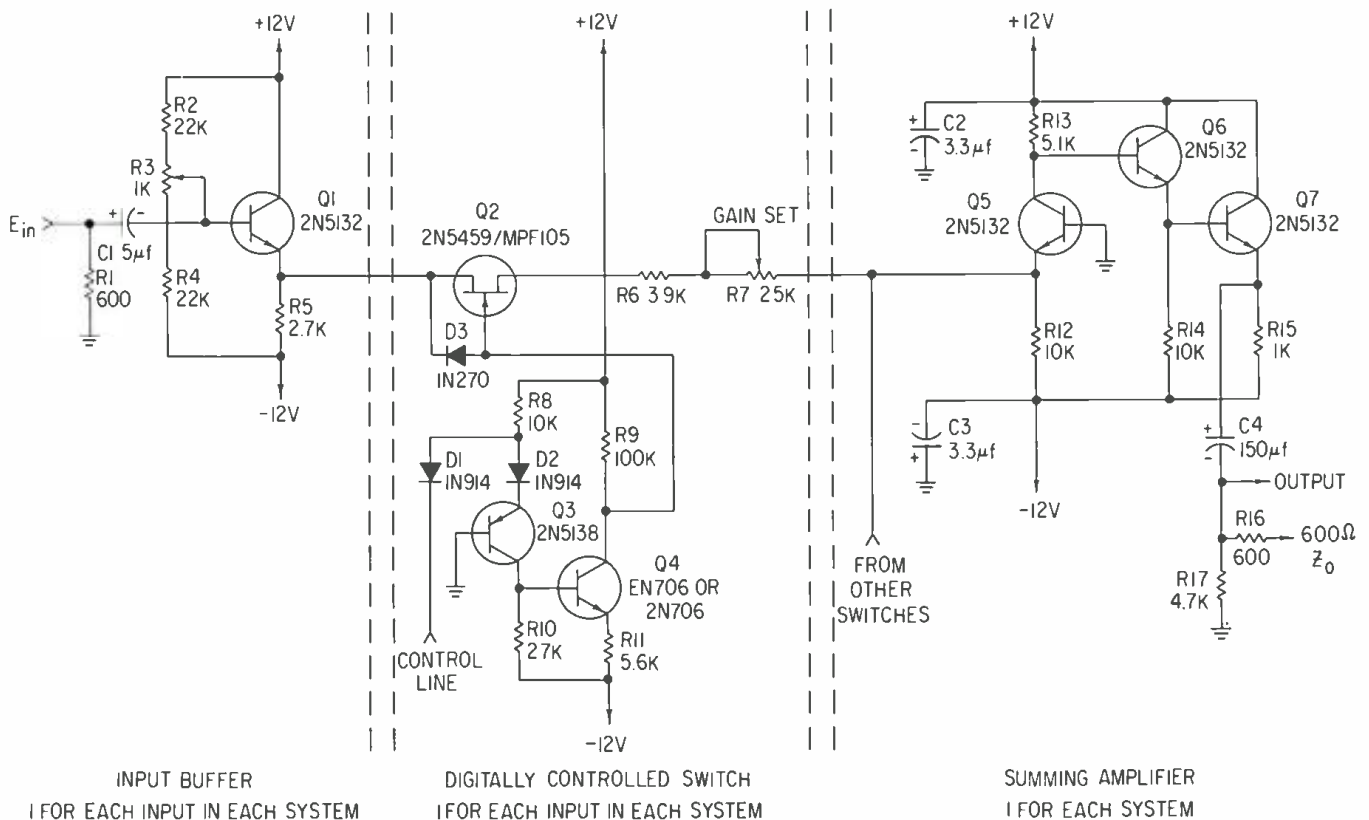

Figure 2. The schematic of the three parts that make up the system.
The circuitry involved in this device is shown in FIGURE 2. The three basic parts of a single switcher/summer are shown
**Input Buffer:** multiply the below quantities by the number of channels required per system—all reference designations pertain to FIGURE 2.